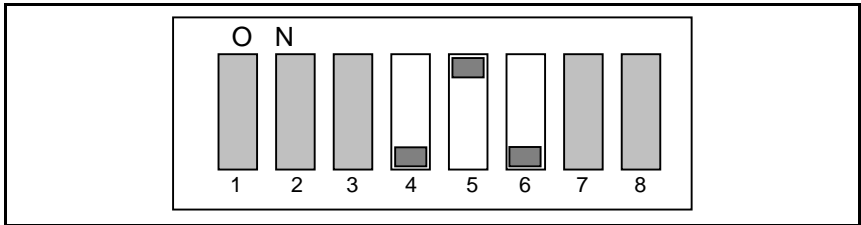

Figure 4-6: Radio Senses Charger and Provides INVERTED Display
- To enable the radio to sense the **EVC and provide an INVERTED display**, move switch 5 to the ON position. This switch applies to M-RK radios only. See Figure 4-6.